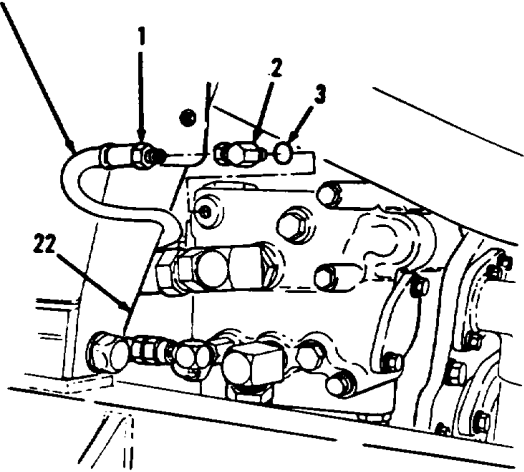
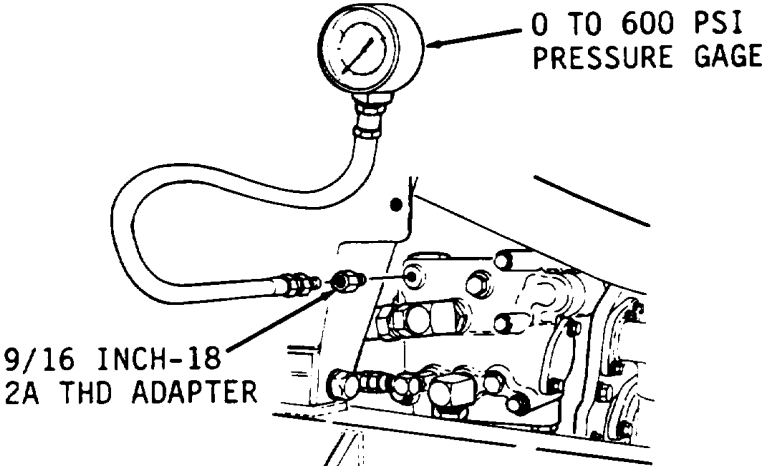

Figure 5-38.
Figure 5-39.
1. Disconnect hose assembly (1) from valve assembly (22, Figure 5-38) from rear, left side of transmission.
2. Remove elbow (2) and preformed packing (3). Discard preformed packing (3).
3. Using a 9/16 inch-18 2A TED adapter, install 0 to 600 psi pressure gage (Figure 5-39).
8. Install new preformed packing (3) and elbow (2, Figure 5-38).
9. Connect hose assembly (1).